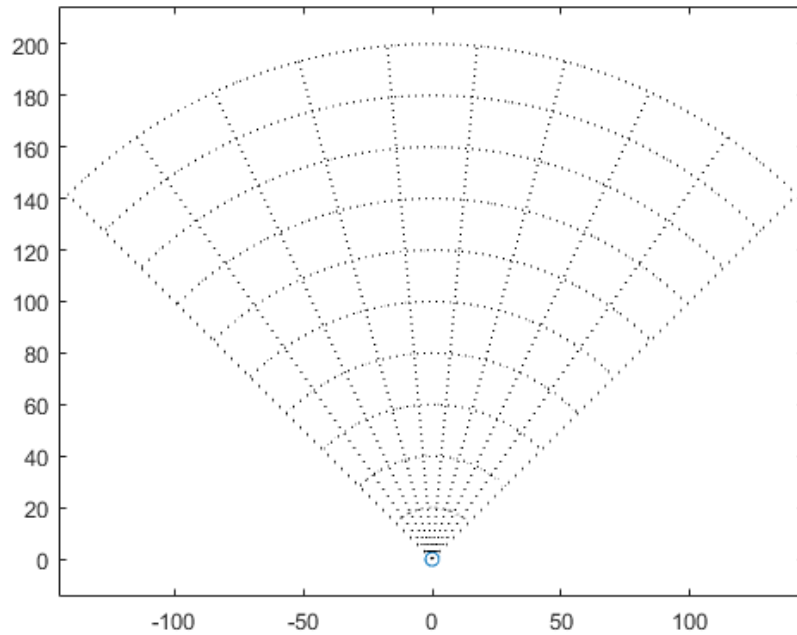

Figure 2: Grid for drawing the beampattern
- As can be seen in the datasheet for the sensor, it detects objects within a certain angle, which distorts the image. Determine this angle by inserting an object that can be thought of as a point scatterer (or rather line scatterer, we only need it to be thin in the plane of the scan). The angular width of this object on the radar screen will correspond to the full beamwidth of the sensor. Try your measurements at different distances and draw the measurements in a grid like the one produced by the matlab script (cf. Fig. 2).